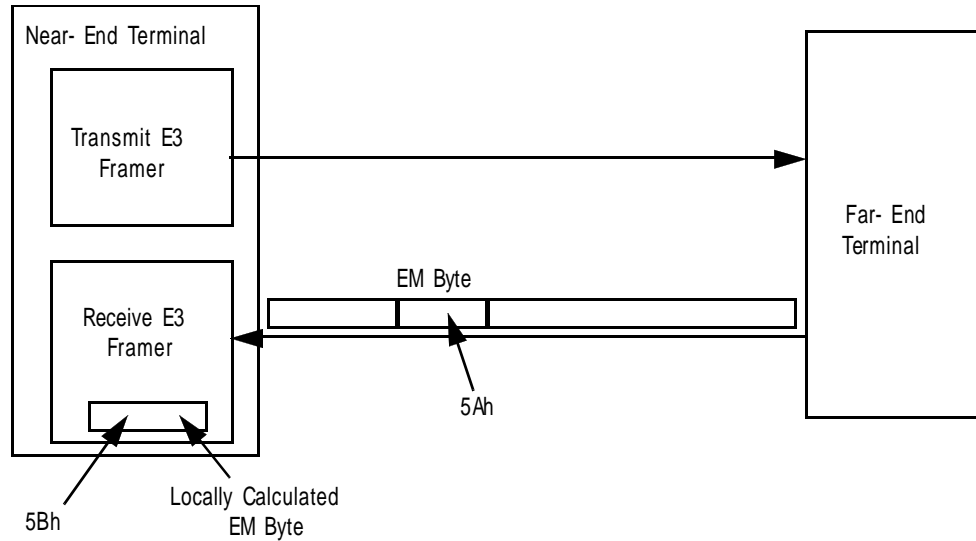

Figure 64. Illustration of the 'Near- End' Receive E3 Framer receiving an E3 Frame (from the 'Far- End' Terminal) with
- It will inform the "Far- End" Terminal of this fact by having the "Near- End" Transmit E3 Framer send the "Far- End" Terminal an E3 Frame, with the "FEBE" bit- field, within the MA byte, set to "1". This phenomenon is illustrated below in Figures 64 and 65.
Figure 64 illustrates the 'Near- End' Receive E3 Framer receiving an "errored" E3 frame. In this figure, the "Near- End" Receive E3 Framer is receiving an E3 with an EM byte containing the value "5Ah". This value does not match the "locally computed" EM byte value of "5Bh". Consequently, there is an error in this E3 frame.